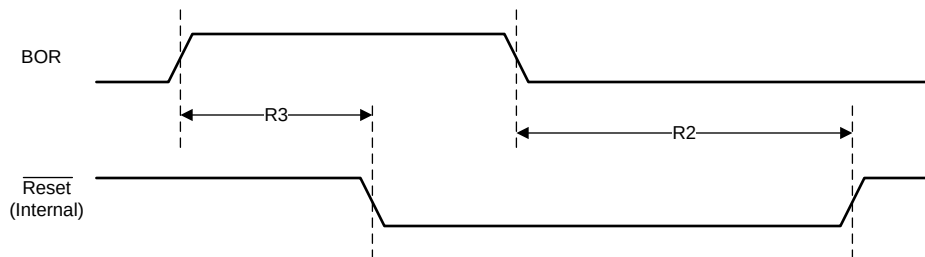

**图 5-8. Brownout Reset Timing**
| R3  | $t_{BOR0DLY}^{(1)}$  | BOR0 to internal reset assertion delay (5) (see 图 5-8)               | 0.44 |                                              | 125                 | $\mu s$ |